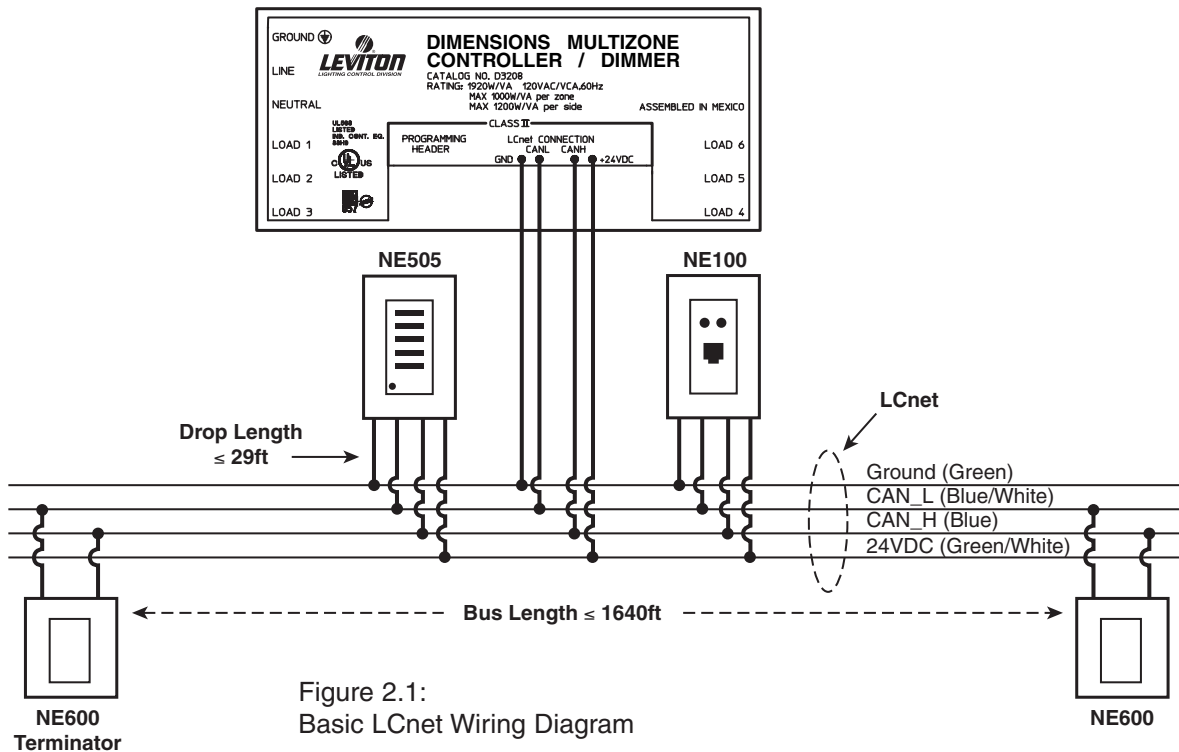
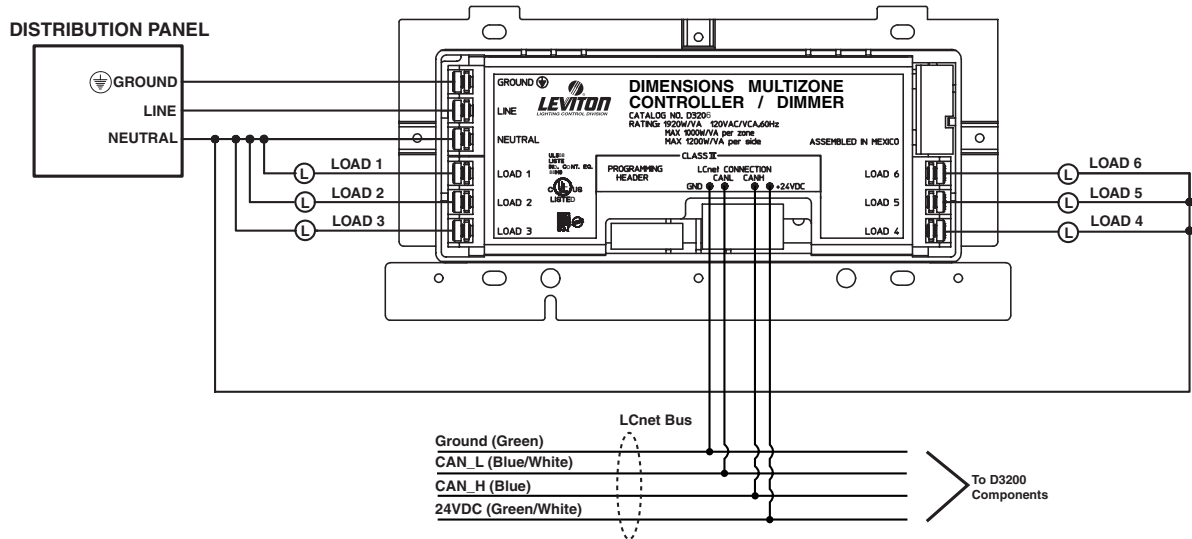
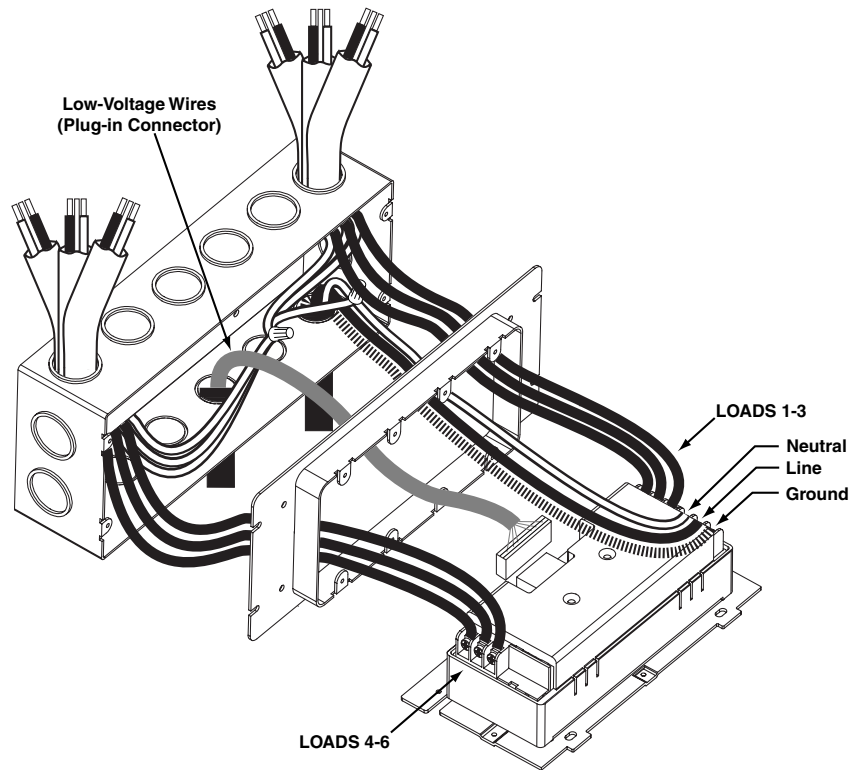

Figure 2.1:
Figure 2-6: Multizone Controller Wiring Diagram
Figure 2-7: Physical Wiring Illustration
The D3200 System is based on a low-voltage communication bus (see Figure 2-1) called the Leviton Control Network (LCnet), which must be wired in accordance with a few, basic principles. Without the LCnet bus, the Multizone Controller can control only those loads to which it is hardwired. To control remote zones located on other Multizone Controllers, the Controller sends messages over the bus. Only the device(s) for which a message is intended will process the message/scene.
3. Line Voltage Wiring: Remove 1/2in. (.95cm) of insulation from each circuit conductor. Connect lead wires per wiring diagram (Figure 2-6). Insert straight wires into holes next to appropriate terminal screws and tighten screws to 9in.-lbs. of torque, as per Figure 2-7.
4. Low-Voltage Wiring (If LCnet wiring is required): Connect leads per wiring diagram (Figure 2-1) as illustrated in Figure 2-7, insert each lead into appropriate plug connector location by pushing firmly. If using stranded wire, twist strands of each lead tightly (making sure that there are no stray strands) and push firmly into appropriate plug connector location. Tighten the screws on the plug connector—making sure that no bare conductor is showing. Connect plug connector to jack on the back of the Multizone Controller.